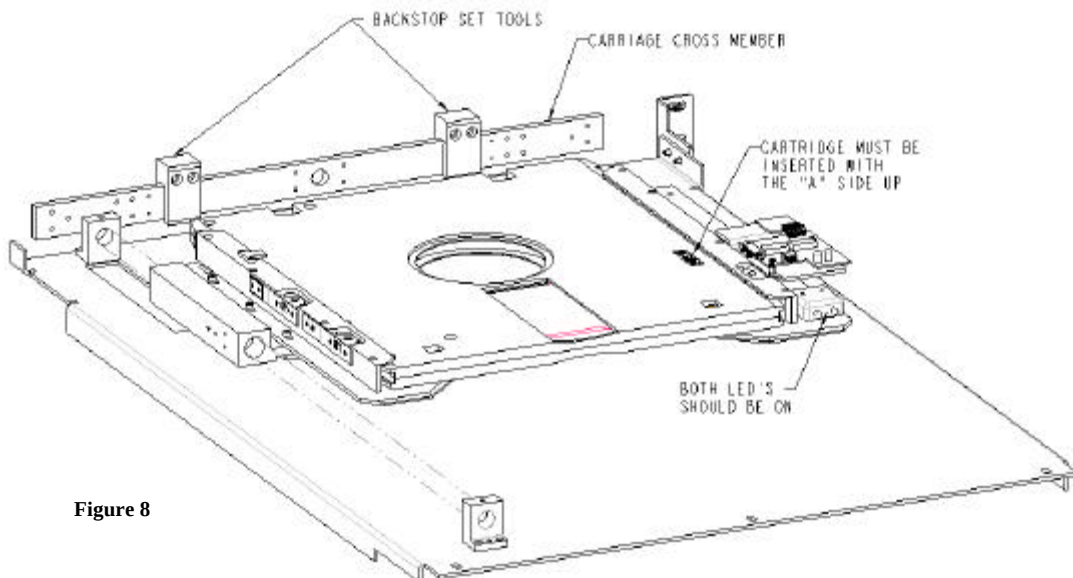

Figure 8
6. Slide the Backstop Set Tools, P/N 25743-01, over the carriage crossmember as shown in Figure 8 approximately ¼ inch (6.35mm) from the grippers.
7. Referring to Figure 8, loosen the three socket head cap screws securing the mailbox.